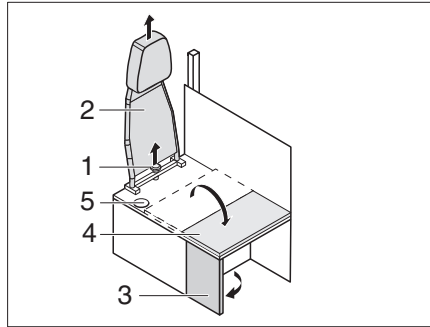

Fig. 212 Conversion drive - living mode
- Unscrew the star screw (Fig. 212,1) and remove the backrest (Fig. 212,2) towards the top.
- Fold out the side panel (Fig. 212,3).
- Fold the seat bench extension (Fig. 212,4) to the side panel.
- ▷ When converting from living to travel mode proceed in the reverse order. Make sure that the safety belt is lead through the opening (Fig. 212,5).